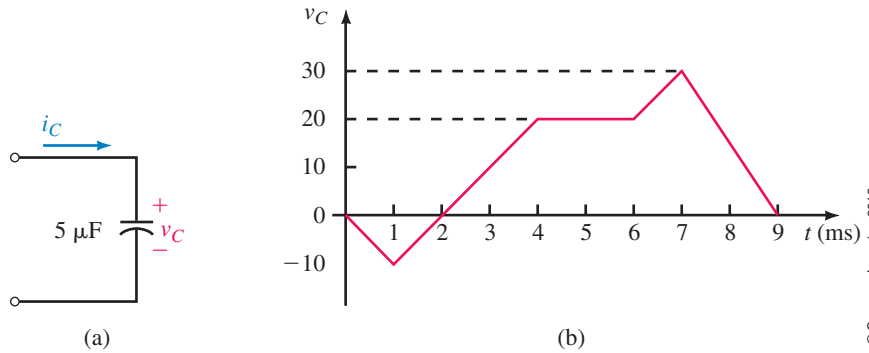

FIGURE 10-42
43. The voltage across the capacitor of Figure 10-42(a) is shown in (b). Sketch current i_C scaled with numerical values.
47. For Figure 10-42, determine the capacitor's energy at each of the following times: $t = 0, 1 \text{ ms}, 4 \text{ ms}, 5 \text{ ms}, 7 \text{ ms}$, and 9 ms .